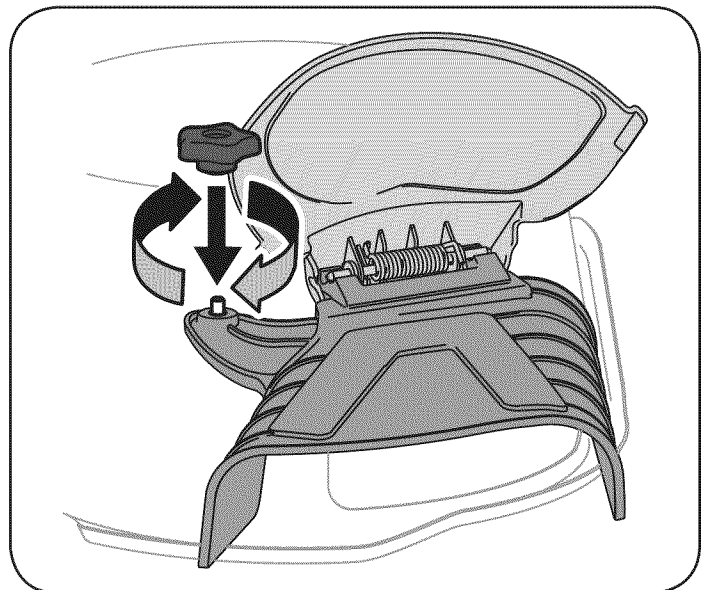

Figure 5
3. Secure the chute to the mowing deck using the wing knob included in the manual bag. Hand tighten the wing knob onto the deck stud. See Figure 5.